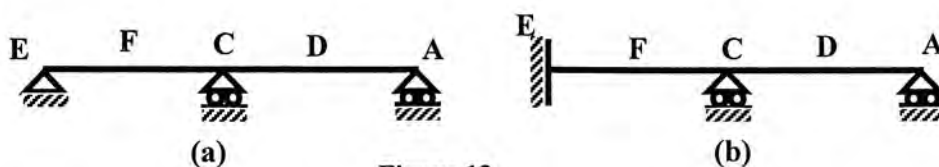

Figure 13
- (i) What is Influence Line (IL)? Draw the qualitative IL for M_A , V_D and R_C for the beams shown in Figure 13 (a-b).